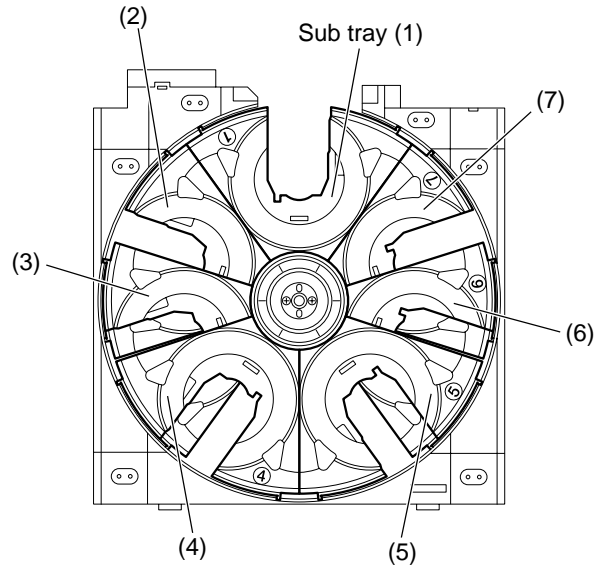

Fig.5
(See Fig.5 and 6)**
**CAUTION:** Make sure the sub trays are set as shown in Fig.5. When moving the sub trays, put the sub trays which come to the position (4) and (5) forward in turn.